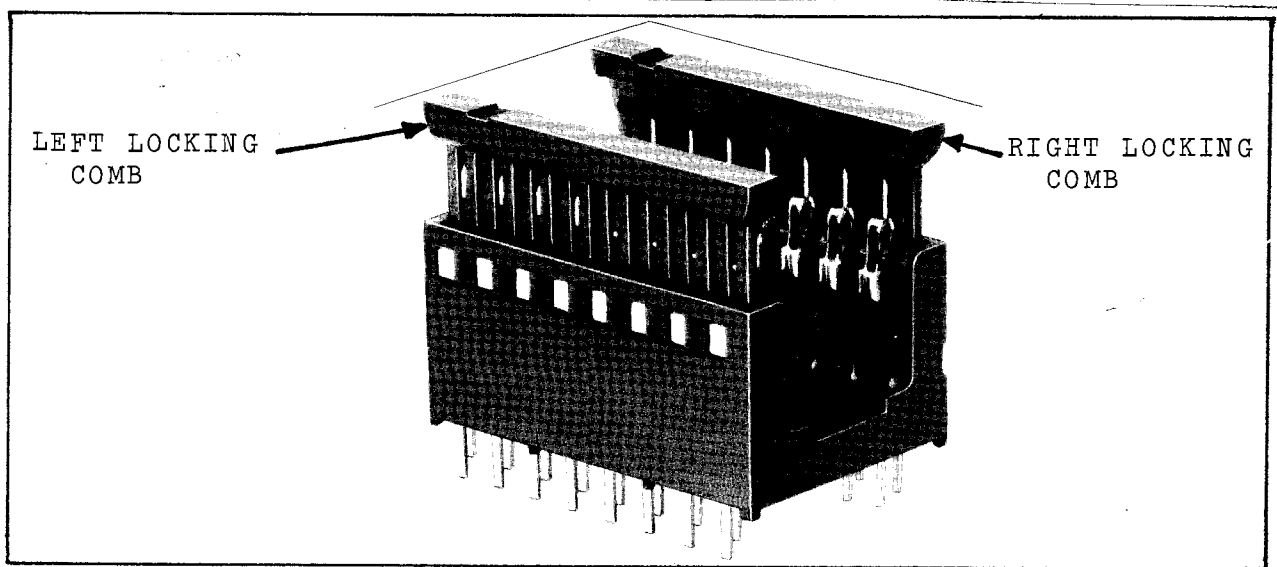

Fig. 6-1 - Memory IC Stacking Socket
1. Remove the locking combs on each side of the socket (see fig. 6-1). This may be done with the IC extraction tool by gripping each end of the locking combs and pulling straight up. Be careful to pull both ends up evenly and not to twist or bend the locking combs.
2. Remove the two locking combs from the socket (see fig 6-1). This may be done with the IC extraction tool by gripping each end of the locking combs and pulling straight up. Be careful to pull both ends up evenly and not to twist or bend the locking combs.
4. Top IC (if used): Look at fig. 6-1, and insert the locking combs just far enough so they push the upper contacts inward. Be sure the "bumpy" side of the locking combs faces inward, and that the polarizing notches are toward the top of the board. Now insert the IC into the upper position with the notch (or pin 1 end) toward the top of the board. Be sure the pins enter the contact boxes.